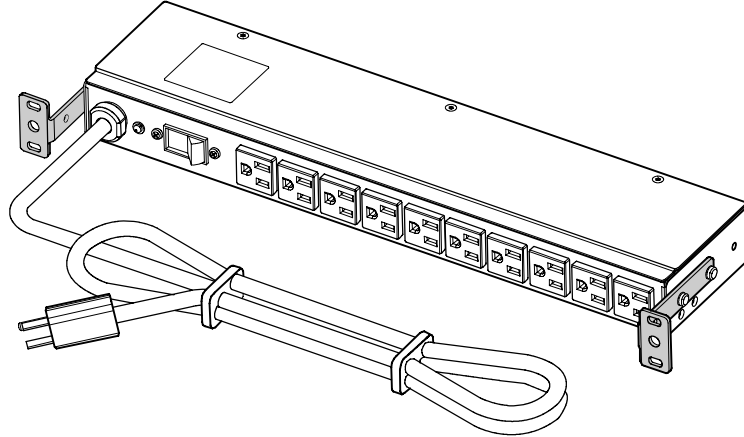
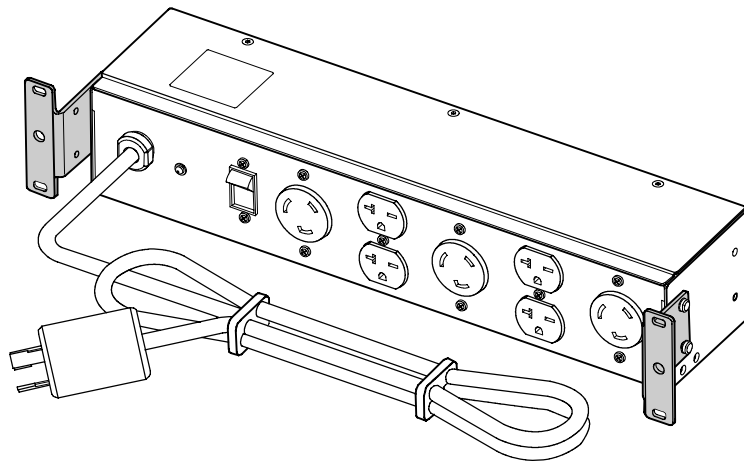

Figure 1. 1U Recessed Mounting Bracket Adjustment (PW101BA1U001 Shown)
Figure 2. 2U Recessed Mounting Bracket Adjustment (PW103BA2U009 Shown)
2. Align the brackets with the screw holes on the sides of the ePDU in the recessed mounting location (see Figure 1 or Figure 2).